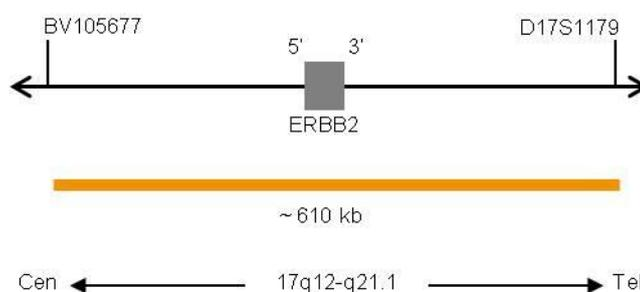

Fig. 1: SPEC ERBB2 Probe map (not to scale)
- ZyOrange (excitation 547 nm/emission 572 nm) labeled polynucleotides (~4.5 ng/ μ l), which target sequences mapping in 17q12-q21.1* (chr17:37,572,531-38,181,308) harboring the ERBB2 gene region (see Fig. 1).